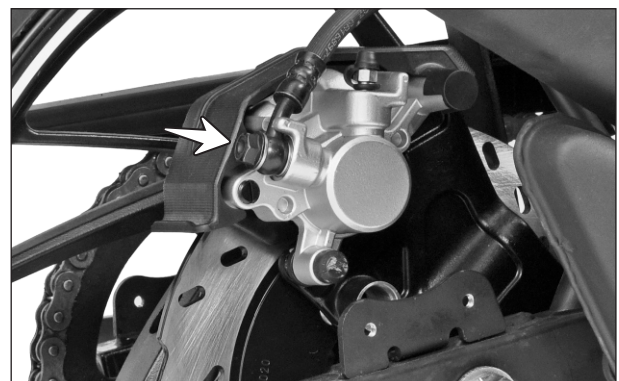

Fig. 6.112
- Remove the banjo bolt and take out the gaskets. (Fig. 6.112)